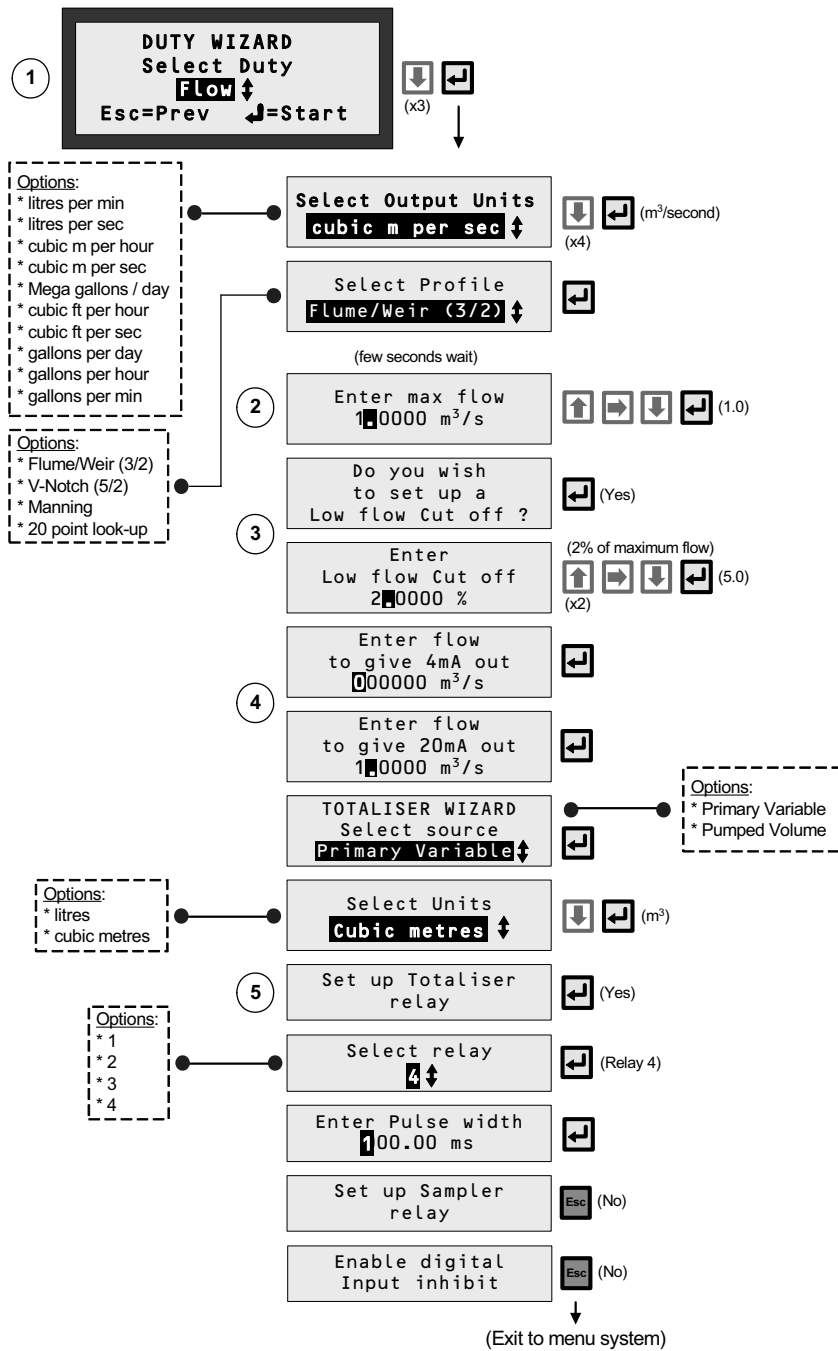

Figure 48: Application/Duty: Flow measurement using a 4-20mA Level Transmitter
4. Work through the “Duty” Wizard prompts (Figure 48 or Figure 49) until completion; this occurs when the menu system re-appears. Keypad hints, for the illustrated Wizard sequence on the next page, are provided alongside the prompts. If applicable, adapt the example to suit your application.
(Figure 48)